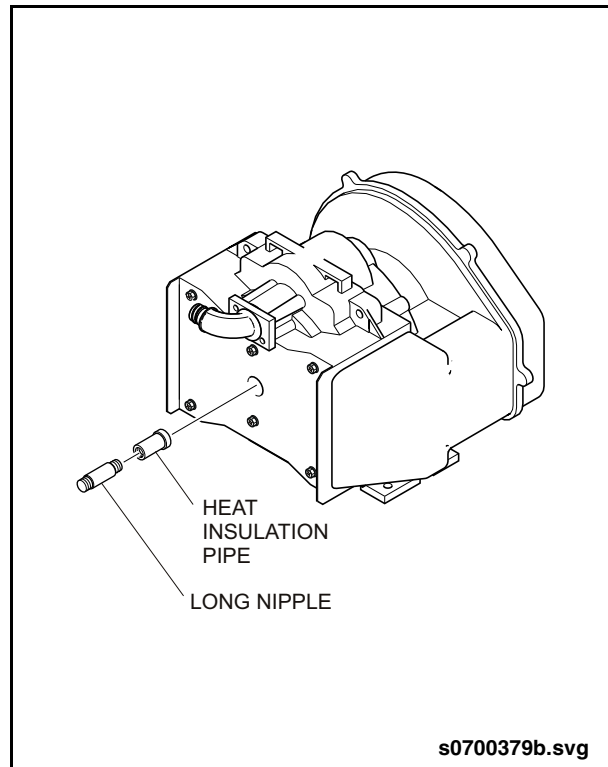

Fig. 10: Heat Insulation Pipe
4. Unthread the long nipple from the compressor housing. See "Fig. 10: Heat Insulation Pipe" on page 8.